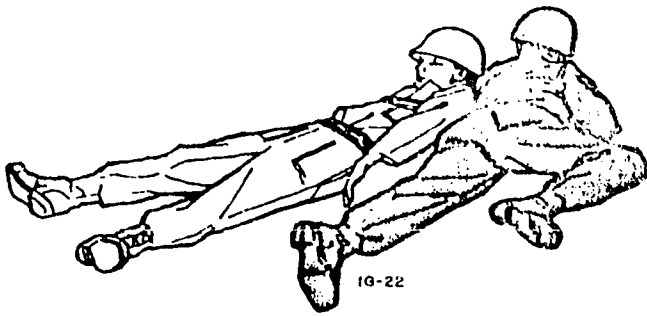

Figure 1-15. Pistol belt drag.
*Pistol-belt drag.* This method (see fig. 1-15), although only useful for short distances, is ideal to move a victim to a location which offers cover and concealment so that you can use the fireman's carry. To use the pistol-belt drag, follow these steps: